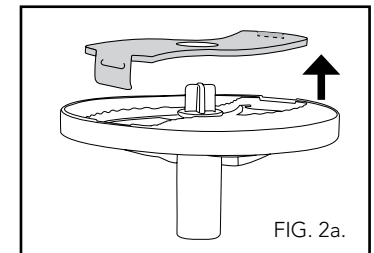

FIG. 2a.
- Remove the blade from the disc as illustrated in Fig. 2a.